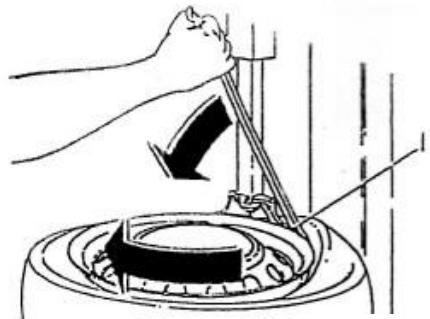
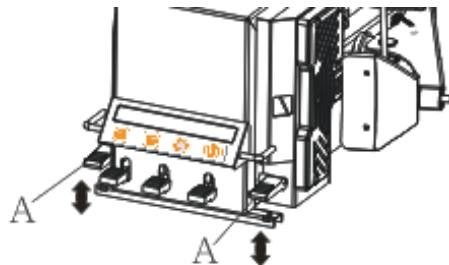

Fig. 17
Fig. 19
- With the lever inserted between the bead and the front section of the mounting head, move the tire bead over the mounting head (fig. 17).
- With the lever (fig. 17) held in this position, rotate the turntable in a clockwise direction by pressing pedal A (fig.19) down until the tire is completely separated from the wheel rim.
- Keeping the tire bead pressed down into the wheel rim channel with your hands, press down on the pedal A (fig.19) to rotate the turntable clockwise. Continue until you have covered the entire circumference of the wheel rim (fig.22A).